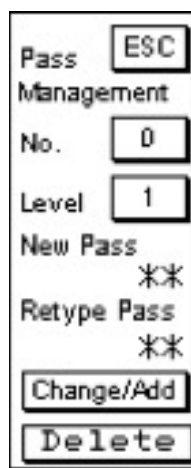

Figure 6
3. Press "Change/Add." (see Figure 6: Password Setup)